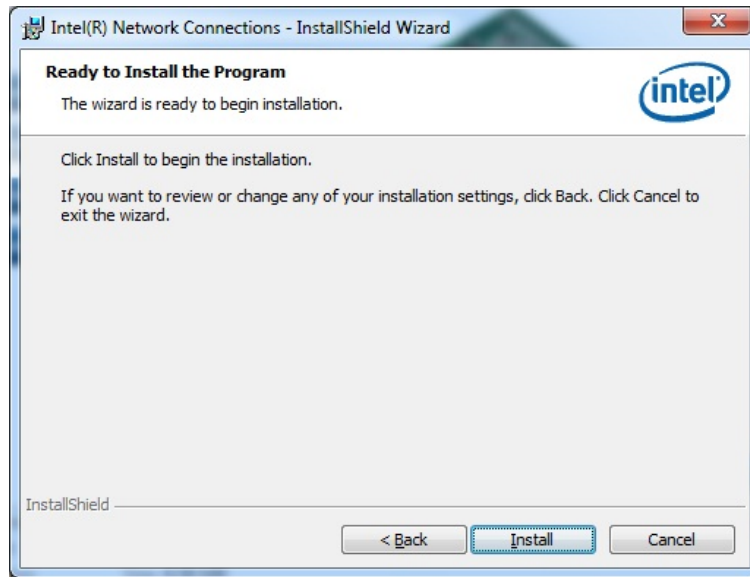

Figure 6-17: LAN Driver Installation
Step 15: The **Ready to Install the Program** screen in **Figure 6-17** appears.